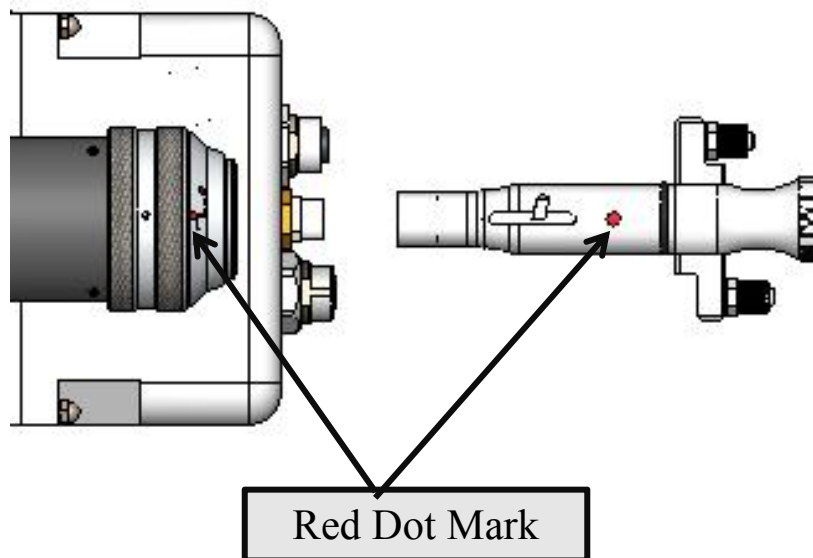

Figure 2.8
④ Align the red dot on the fiber head with the red dot on the QBH connector, and slowly insert the fiber head into the QBH connector, as shown in Figure 2.8: